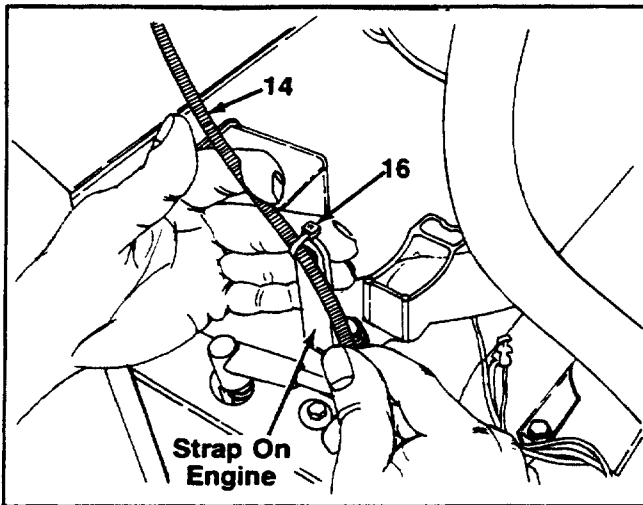

FIGURE 11.
14. Slide the choke cable out of cable tie located on top of engine strap. See figure 11. You may also cut the cable tie.